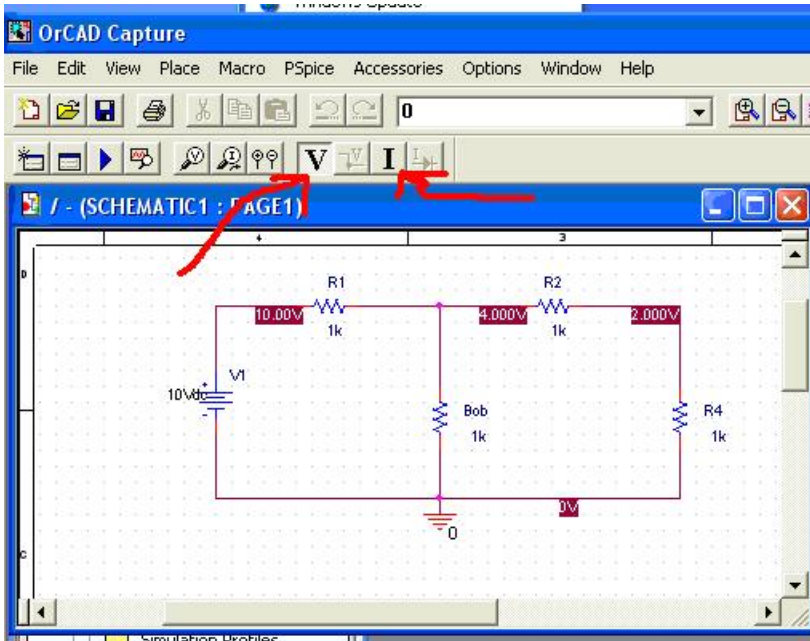

Figure12
Now click on the Run button on the top left corner of the screen (under the save disk). A black screen with some numbers on the bottom will popup, close that. You will get something like Figure12. On the top you have the option to show or hide the voltage (V) and current (I) at each node. Pspice is often helpful when trying to do homework.